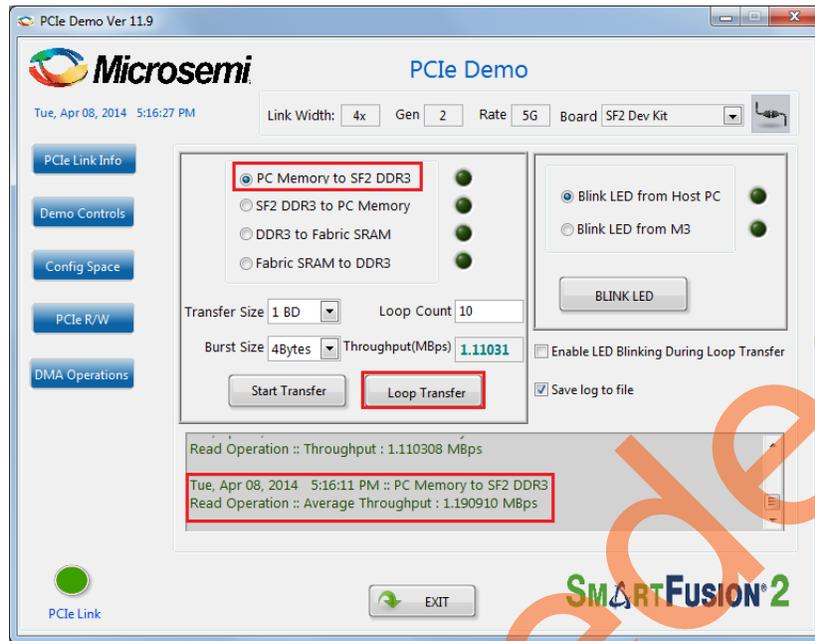

Figure 19 • Host PC to DDR3 Throughput
8. Enter 10 in the **Loop Count** box and click **Loop Transfer** to perform 10 sequential DMA transactions. The PCIe\_Demo window displays the DMA throughput after completion of data transfer. Figure 19 shows the throughput of DMA transactions from host PC to DDR3. The average throughput is logged and the log file is stored at C:\PCIe\_Demo\DriverInstall in the host PC.